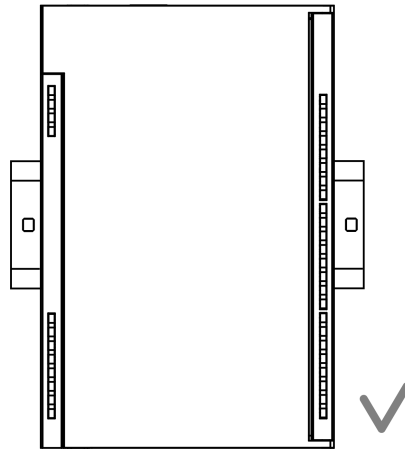

Fig. 3.1 Proper installation
2. Fasten the device to the DIN rail or to a vertical surface using screws (see Figure 3.1).